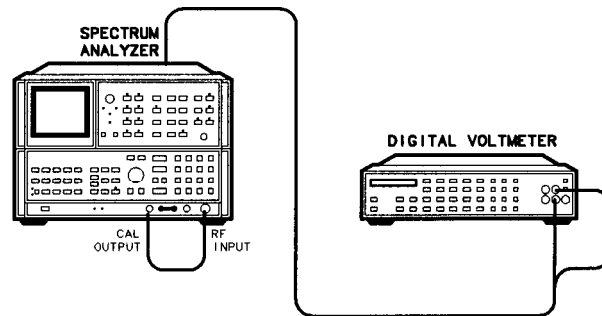

Figure 3-102. Track and Hold Adjustments Setup
1. Place spectrum analyzer upright as shown in Figure 3-102 with IF-Display Section top cover and A3 Digital Storage covers removed.